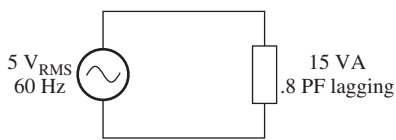

FIGURE P6.59 Circuit for Problem 6.59.
- 6.59** (A) Find the real and reactive power consumed by the load in Figure P6.59.